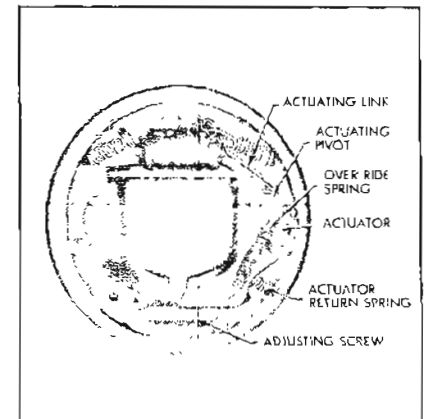

Figure 9-12—Rear Wheel Brake Assembly Left
NOTE: It may be necessary to back off the brake shoe adjustment before the brake drums can be removed. To back off shoe adjustment, rotate shoe adjusting screw upward. See Figure 9-12.
6. Separate the brake shoes by removing adjusting screw and lock spring. Remove parking brake lever from secondary brake shoe (rear only). See Figure 9-12.
4. Place brake shoes on backing plate, at the same time engaging shoes with wheel cylinder links. The primary shoe (short lining) goes forward. On rear brakes, connect cable to parking brake lever and install strut and spring between lever and primary shoe as shown in Figure 9-12.
5. Install actuator, actuator return spring and actuating link as shown in Figure 9-12.